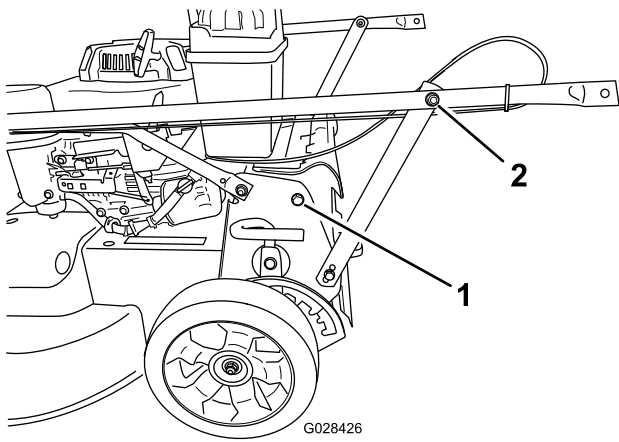

Figure 4
1. Remove the 2 bolts from the machine frame in the location shown in Figure 4.